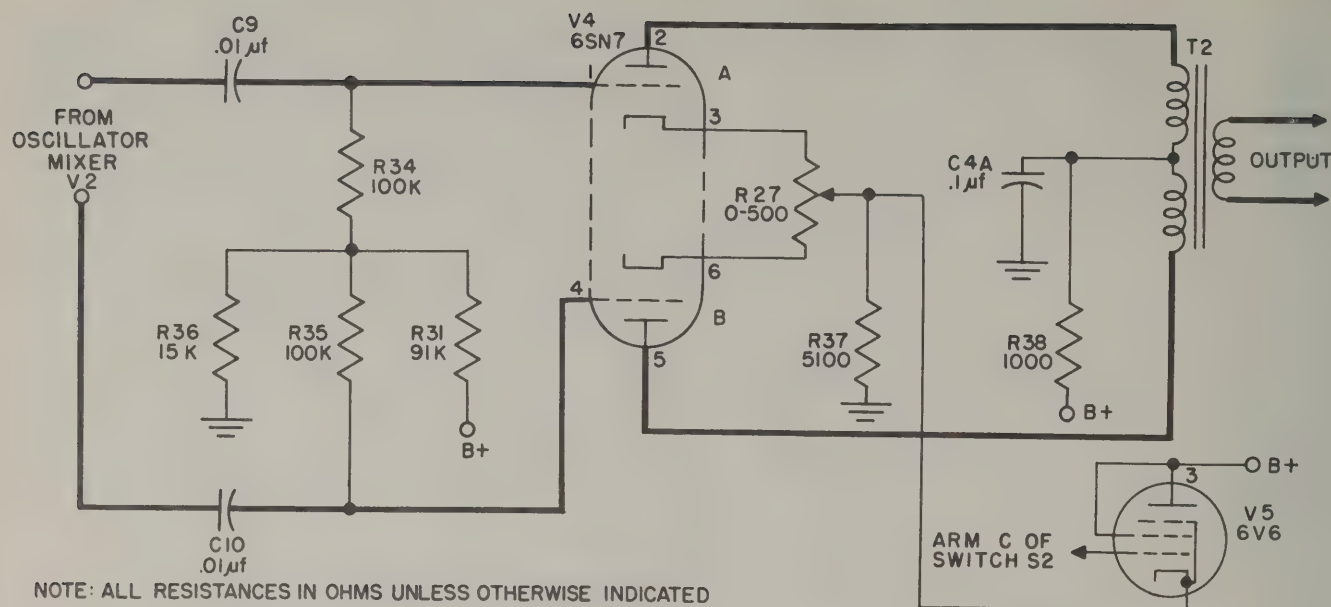

Figure 2-29. Keyer KY-79/UR, Simplified Schematic, Keying Amplifier and Keyed Audio Output Amplifier
(2) KEYING AMPLIFIER V5. (See figure 2-29.)—The keying amplifier tube V5 applies the keying signal to the output amplifier tube V4, by driving the output amplifier beyond cut-off when a space signal is applied to Keyer KY-79/UR.
(4) KEYED AUDIO OUTPUT AMPLIFIER V4. (See figure 2-29.)—The output amplifier is a push-pull class A amplifier. Audio signals from tube V2 are fed through potentiometer R24 and coupling capacitor C9 to the grid of tube V4A, and through the connection of resistors R21 and R55 to the grid of tube V4B. Grid and cathode biasing are used in both sections of the tube. Voltage divider resistors R31 and R36 apply grid bias to tube V4A through resistor R34, and to tube V4B through resistor R35. Cathode bias for both sec-